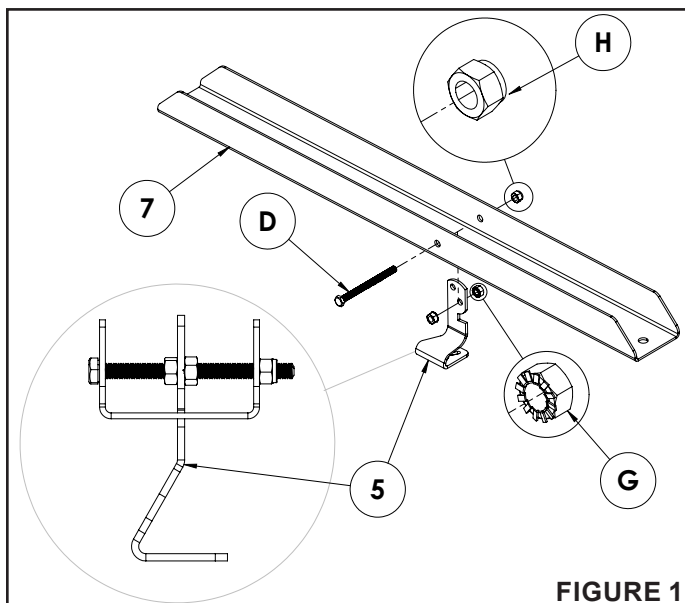

FIGURE 1
STEP 1: (SEE FIGURE 1)
- Assemble the swivel tongue (7) by inserting the foot pedal latch (5) into the slot as shown below.
- Install the 5/16" hex bolt (D) into the first hole on the swivel tongue (7).
- Thread a 5/16" Sims nut (G) onto the 5/16" hex bolt (D) until it is approximately 1" from the head of the bolt. (Washer on nut (G) will face away from the head of the bolt.)
- Guide the hex bolt (D) through the middle hole on the foot pedal latch (5) as shown below.
- Thread a 5/16" Sims nut (G) onto the 5/16" hex bolt (D) until it is approximately 2" from the threaded end of the bolt. (Washer on nut (G) towards the head of the bolt.)
- Guide the hex bolt (D) through the other hole on the swivel tongue (7).
- Secure 5/16" hex bolt (D) with a 5/16" nylock nut (H).
- Tighten both 5/16" Sims nuts (G) up against the foot pedal latch (5). Make sure the foot pedal latch (5) can freely move.
- Tighten the 5/16" nylock nut (H).